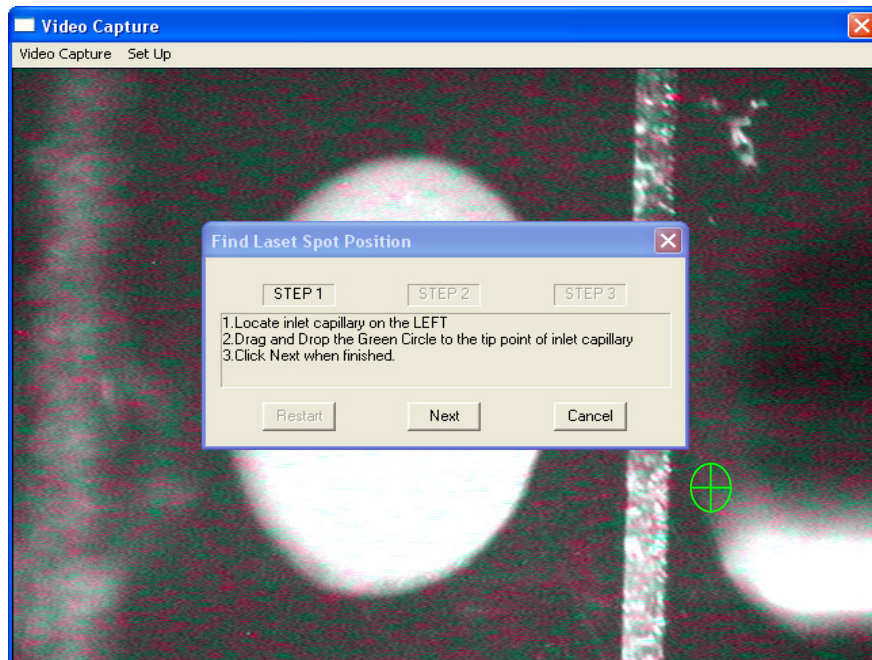
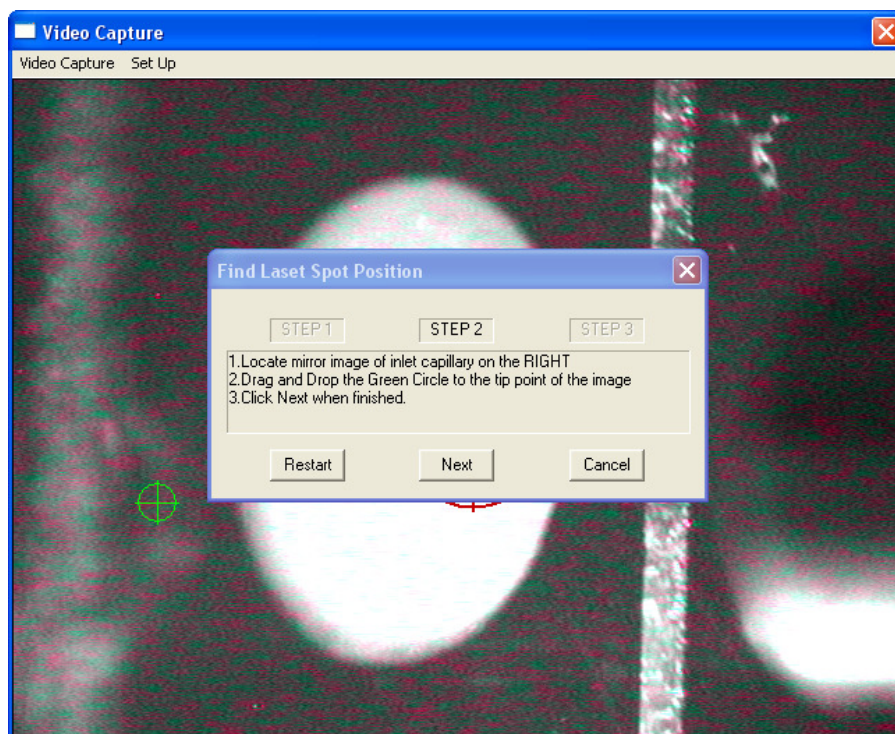

Figure 7.12 Step 1
Figure 7.13 Step 2
In Step 1, drag and drop the green target icon to the capillary inlet of the mass spectrometer (Fig. 7.12). In Step 2, drag and drop the green target icon to the image of the capillary inlet of the mass spectrometer (Fig. 7.13). Then click “Next.” Now the user should see the red cross hair between the capillary inlet of the mass spectrometer and the image of the capillary inlet.
There are two modes of operation for the Target Software: manual (auto sequence toolbar icon is deactivated) and auto sequence. Switch between the modes by pressing the auto sequence toolbar icon  (Fig. 7.12). In the manual mode, only one sample on the "target plate" can be selected. Click any spot in the target plate field and the target plate will move to the selected position. The user can shift the position of the spot by clicking the arrow buttons placed around the center button as shown in Fig. 7.12, or through holding down on the arrow buttons to advance to the next sample faster. Click the center button to restore the central spot position.
"Settings" button and edit the parameter(s) as it is shown in Figs. 7.13 to 7.18 below.
- Laser pulse energy and frequency may be easily tuned through Target software (see Fig. 7.13 and 7.17). Typically you should tune the attenuation for the maximum signal only once, for every matrix type (α -CHC, DHB and so on).